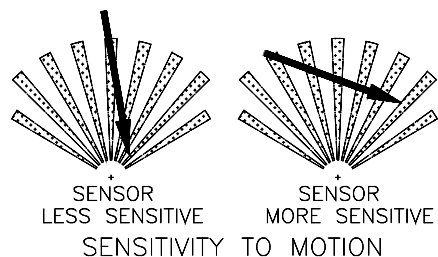

FIGURE 1
- Where possible, mount the detector so that the logical path of an intruder would cut across the fan pattern rather than directly towards the detector (FIGURE 1).